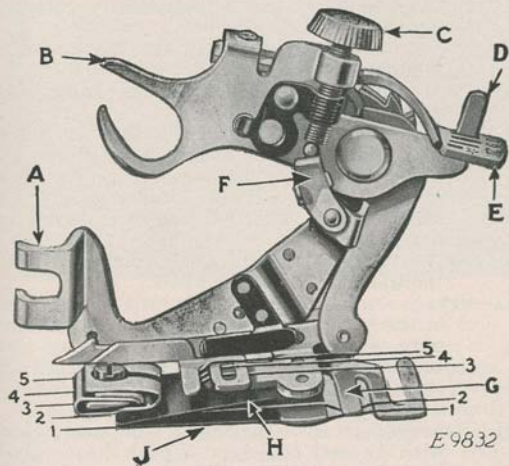
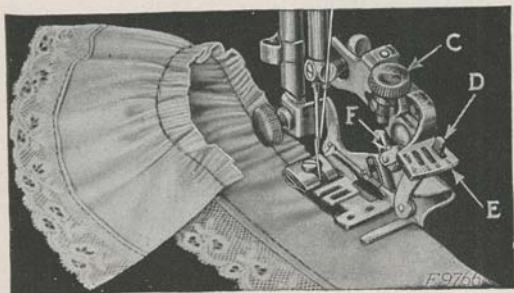
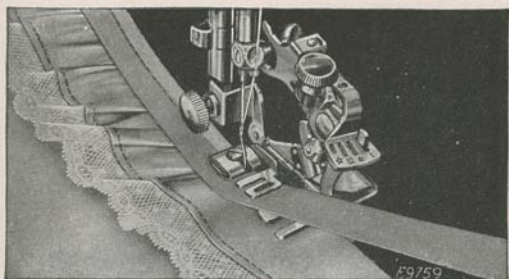
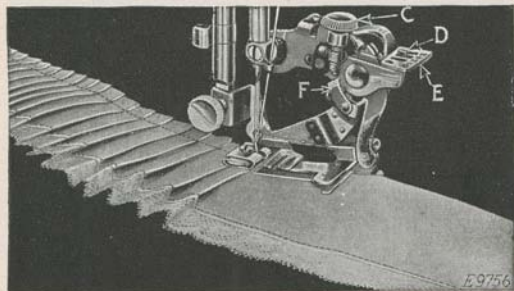

FIG. 52. THE RUFFLER AND ITS PARTS
FIG. 53
FIG. 55
FIG. 57
Lines 1, 2, 3, 4 and 5 shown in Fig. 52 indicate where the material is to be placed for various operations, as follows:
Refer to Fig. 52 when inserting the material in the ruffler.
(SEE REFERENCES IN FIG. 52)
Raise the needle bar to its highest position and remove the presser foot. Attach the ruffler foot (A, Fig. 52) to the presser bar by means of the thumb screw, at the same time placing the fork arm (B, Fig. 52) astride the needle clamp as shown in Fig. 53.
The adjusting finger (F, Fig. 53) is not intended for gathering and should be moved forward or away from the needle, as shown in Fig. 53.
Raise the adjusting lever (E, Fig. 53) and move it to the left so that the projection (D, Fig. 53) will enter the slot marked "1" in the adjusting lever (E) when the lever is released. The ruffling blade will then move forward and back once at every stitch. Insert the material to be ruffled between the two blue blades, following the line 2 in Fig. 52. Draw the material slightly back of the needle, lower the presser bar and commence to sew.
To make fine gathering, shorten the stroke of the ruffling blade by turning the adjusting screw (C, Fig. 53) upward; also shorten the stitch. To make full gathering, lengthen the stroke of the ruffling blade by turning the adjusting screw (C) downward, also lengthen the stitch. By varying these adjustments, many pleasing varieties of work can be accomplished.
2, in Fig. 52. Place the garment to which the ruffle is to be attached, under the separator blade, following the line 1, in Fig. 52. Proceed the same as for gathering.
Insert the material to be ruffled between the two blue blades, following the line 2, in Fig. 52. Place the garment to which the ruffle is to be attached, under the separator blade, following the line 1, in Fig. 52. Place the material for the facing over the upper blue blade, as shown in Fig. 55, following the line 3, in Fig. 52. The facing may be straight or bias material. If the facing is to be on the right side of the garment, place the garment and
Insert the material to be ruffled between the two blue blades, following the line 2, in Fig. 52. This
The material for piping must measure about $\frac{1}{4}$ inch wide when folded in the center and is usually cut on the bias. Place the piping material in the ruffler, following the line 4, in Fig. 52, with the folded edge of the piping to the right. The material to which the piping and ruffling are to be sewn should be folded on the edge and inserted in the ruffler, following the line 5, in Fig. 52.
Raise the adjusting lever (E, Fig. 57) and move it to the right so that the projection (D, Fig. 57)
will enter the slot marked "6" in the adjusting lever when the lever is released. The ruffling blade will then move forward and back once at every six stitches. To adjust the ruffling blade to make a plait once at every twelve stitches, place the adjusting lever (E, Fig. 57) so that the projection (D) enters the slot marked "12" in the adjusting lever. Insert the material to be plaited between the two blue blades, following the line 2 (Fig. 52). The size or width of plaits is regulated by the adjusting screw
(C, Fig. 57) and the adjusting finger (F, Fig. 57). To make a wider plait, move the adjusting finger (F) back or toward the needle and turn the adjusting screw (C) downward. To make a smaller plait, turn the adjusting screw (C) upward. The distance between plaits is regulated by the length of stitch.